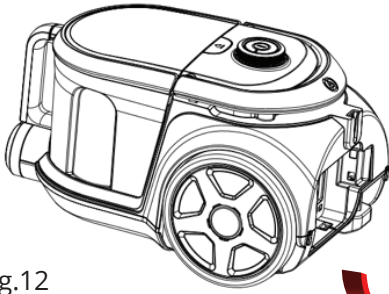

Fig.12
- 1) Press on the outlet lock to open (Fig. 12).